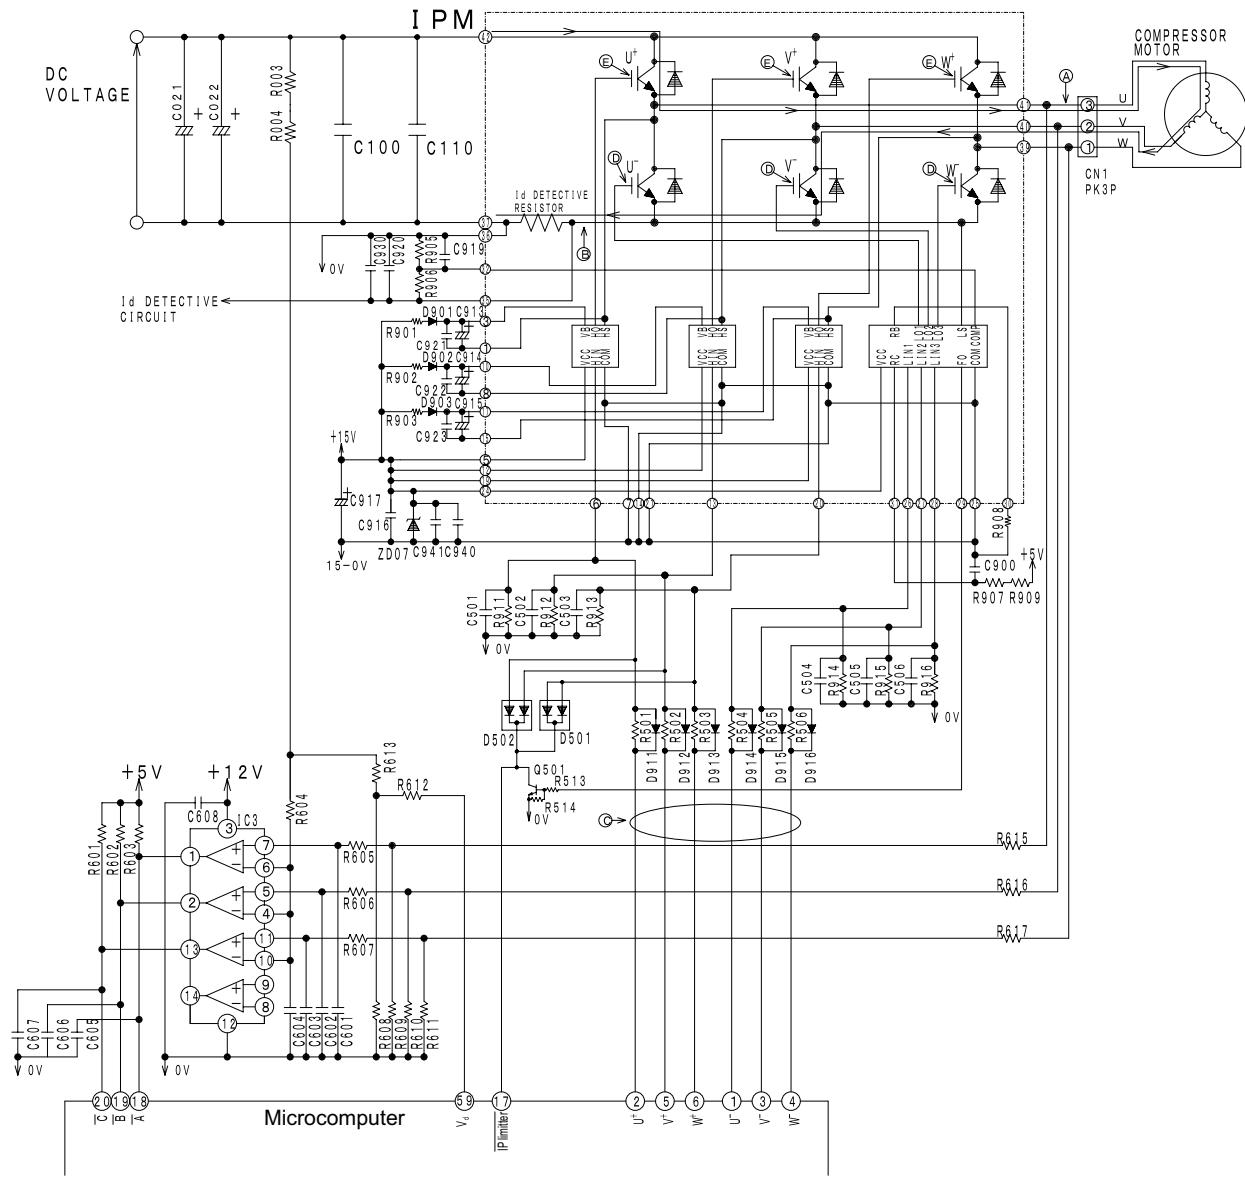

Fig. 4-1 Intelligent power module circuit ( $U^+$  is ON,  $V^-$  is ON)
- Fig.4-1 shows the intelligent power module and its peripheral circuit. The three transistors on the positive **U** side are called the upper arm, and the three transistors on the negative **V** side, the lower arm.